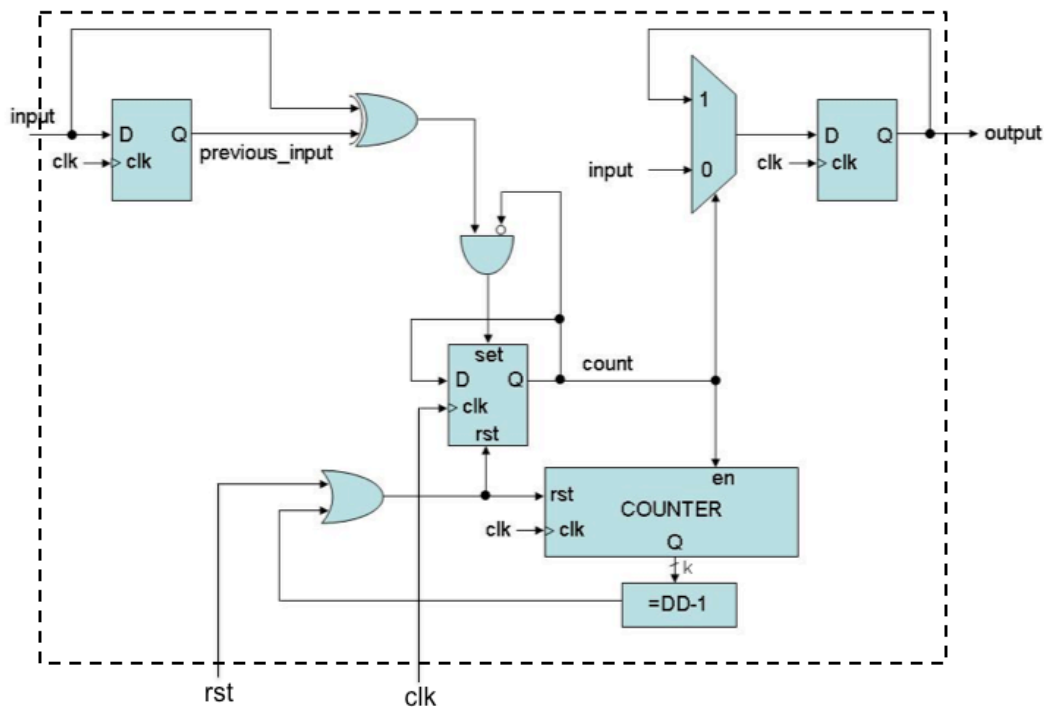

Fig. 4: Block diagram of the Debouncer circuit.
Write a complete simple testbench capable of testing the debouncer shown in Fig. 4, by applying
- The Debouncer, shown in Fig. 4, should be instantiated with the following values of the generics k and DD: $k = 4$, $DD = 15$.